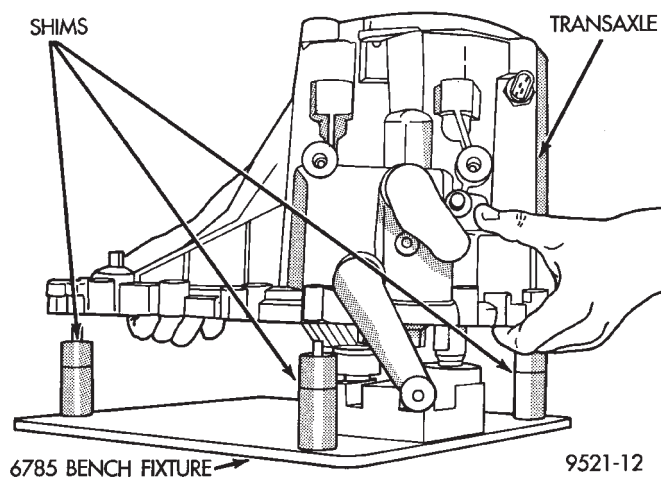

Fig. 53 Bench Fixture
(13) Using bench fixture and shims provided (Miller tools # 6785, 6785-1, and 6785-2), turn transaxle over. Install transaxle onto bench fixture (Fig. 53). Verify shim spacers are in position on bench fixture. Install transaxle into shop press.